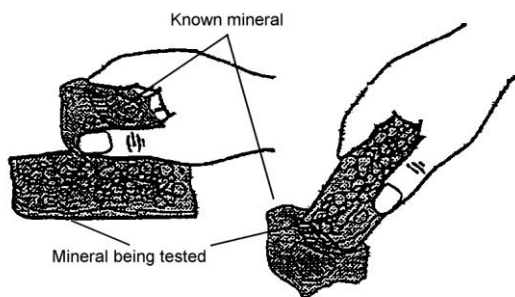

FIGURE 19. Testing for hardness
1. Test a mineral for hardness by scratching the mineral against a mineral with a known hardness. See FIGURE 19.